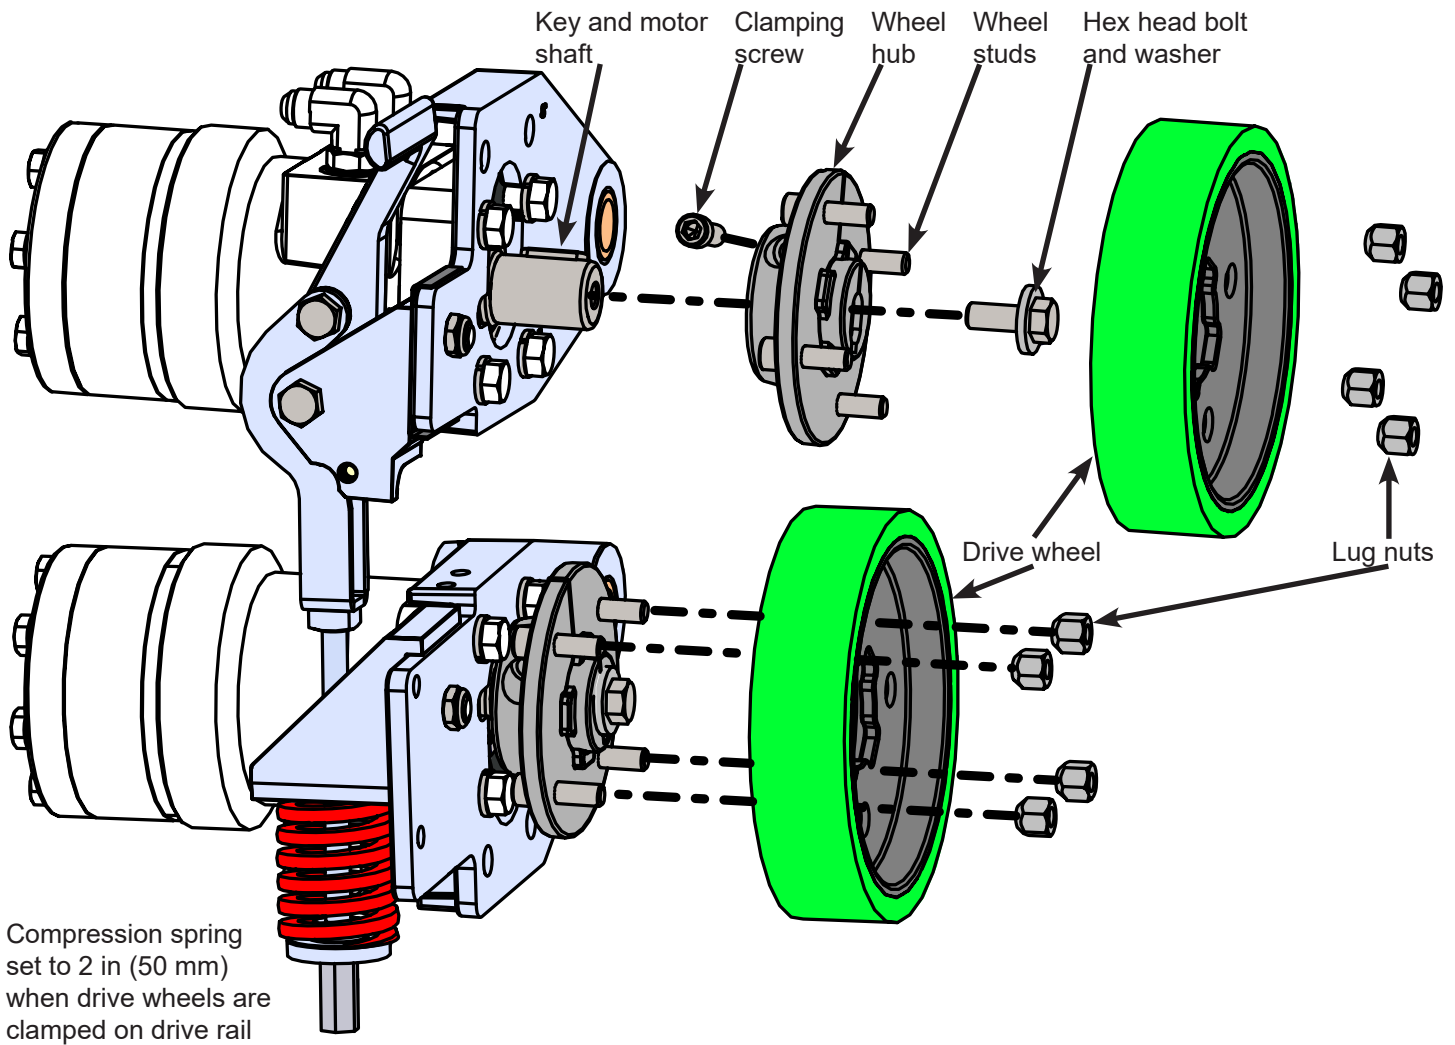

Figure 5. Drive Wheel and Wheel Hub Assembly
10. Remove the hex head bolt and washer from the wheel hub and motor shaft (Figure 5).
4. Install a key into the motor shaft key slot and slide the wheel hub on the motor shaft and key (Figure 5). Ensure the hub is fully seated on the motor shaft.